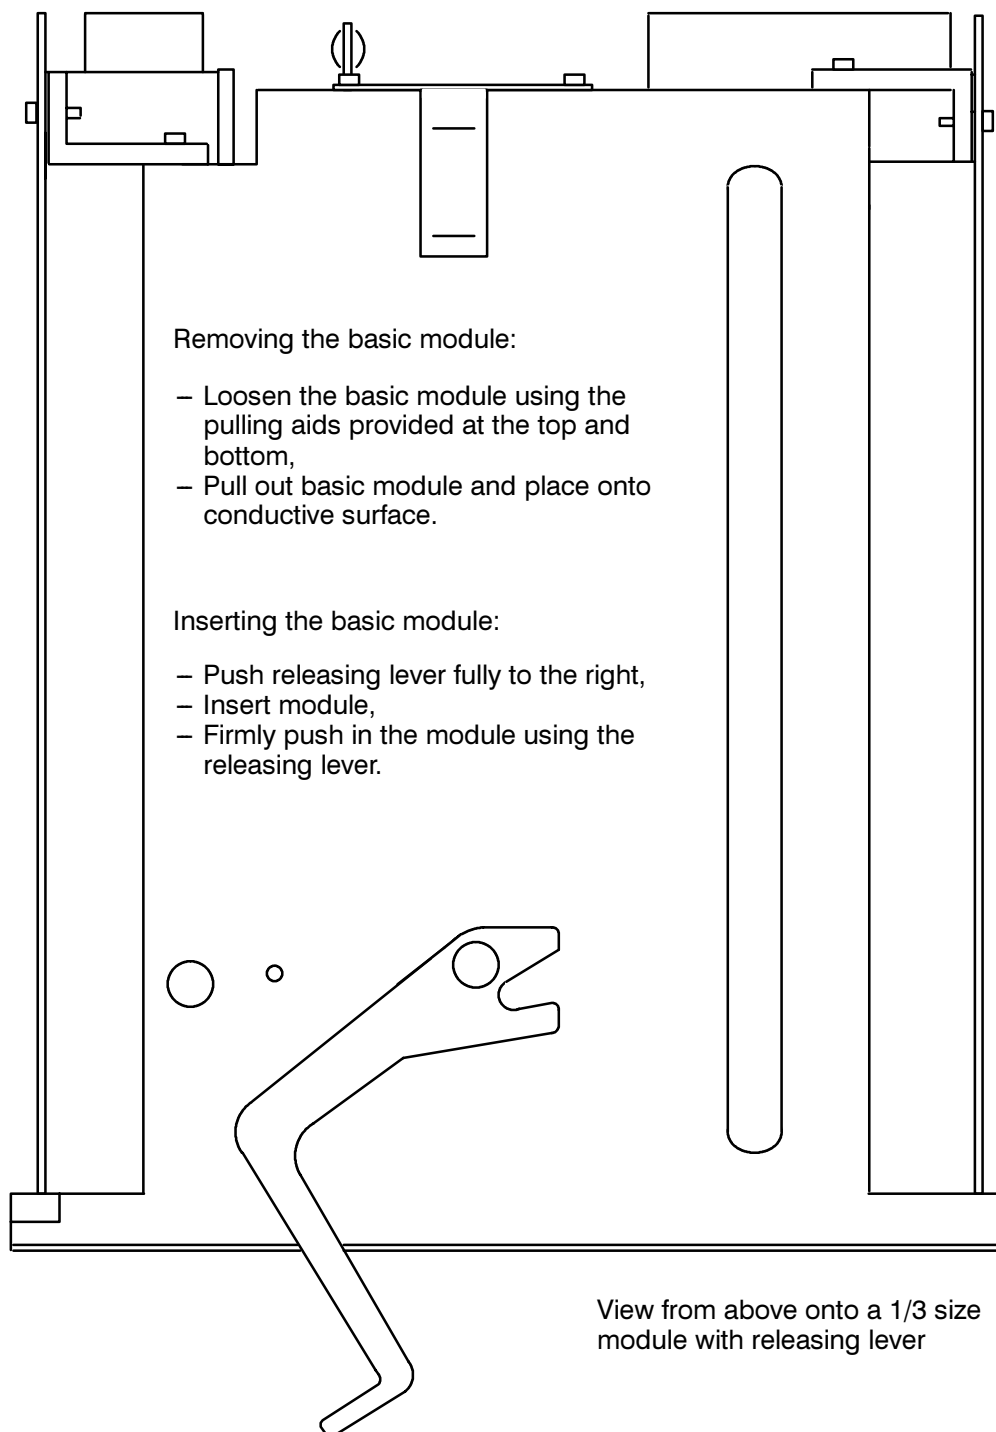

Figure 7.3 Aid for removing and inserting basic module
- Loosen the draw-out module using the pulling aids provided at the top and bottom. (Figure 7.3).
- Firmly push in the module using the releasing lever (Figure 7.3).
- Loosen the basic module using the pulling aids provided at the top and bottom. (Figure 7.3).
- Insert basic module into the housing; ensure that the releasing lever is pushed fully to the right before the module is pressed in (Figure 7.3).
- Firmly push in the module using the releasing lever. (Figure 7.3).